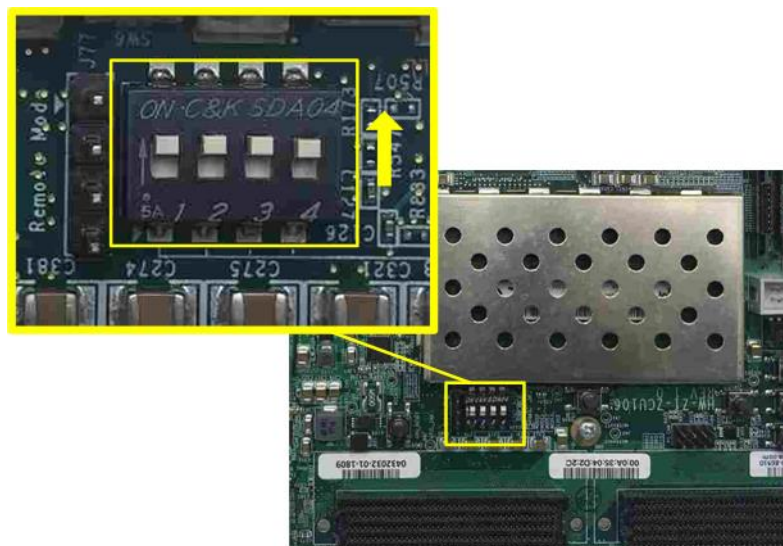

Figure 2-1 SW6 setting to configure PS from JTAG on ZCU106
- 2) For ZCU106 board, set SW6[4:1] = all ON to configure PS from JTAG, as shown in Figure 2-1.